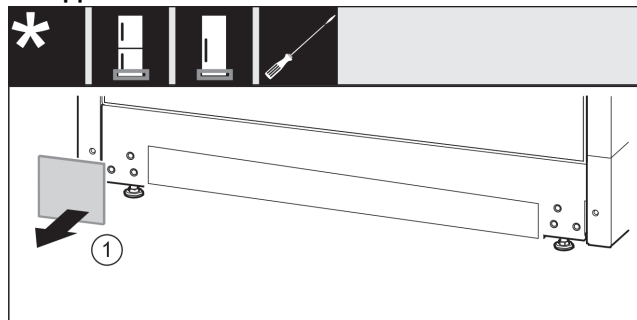

Fig. 13
- Take off the cover. Fig. 13 (1)